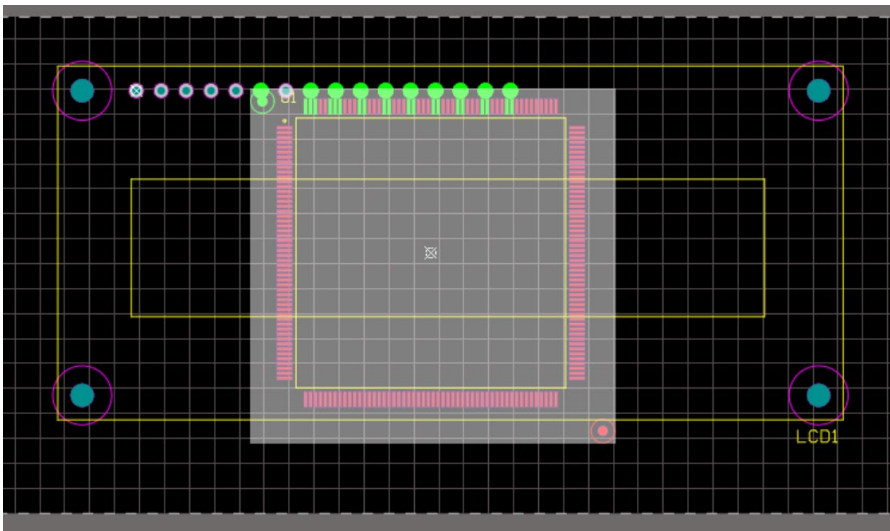

Figure 3: Pads violating
- c) Click **OK**. This should cause the pads of the LCD display and the FPGA to violate and will highlight in the online DRC violation color, Figure 3. This is an Electrical Clearance rule violation and not a Component Clearance rule violation.